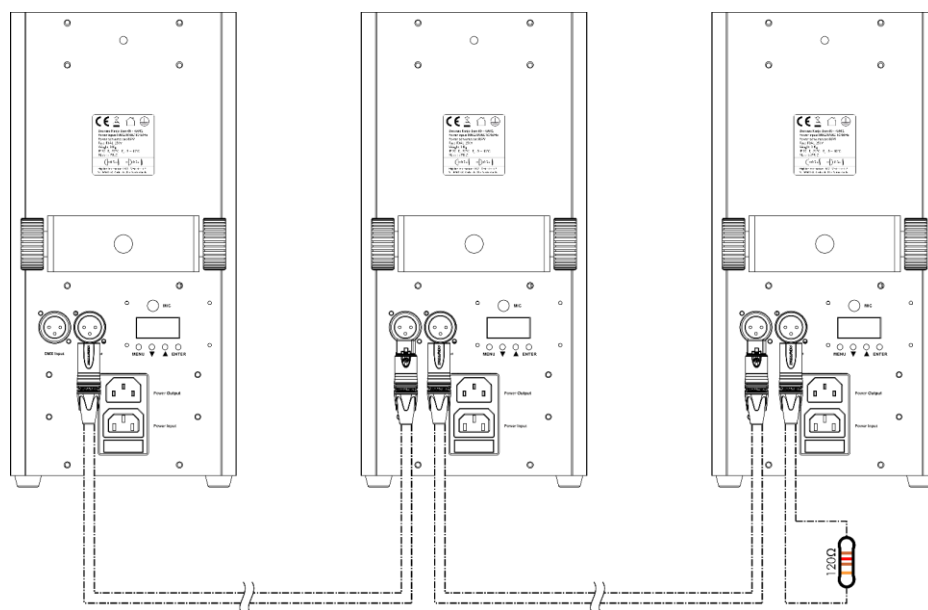

Fig. 10
- 02) Repeat step 1 to connect all devices as shown in Fig. 10.